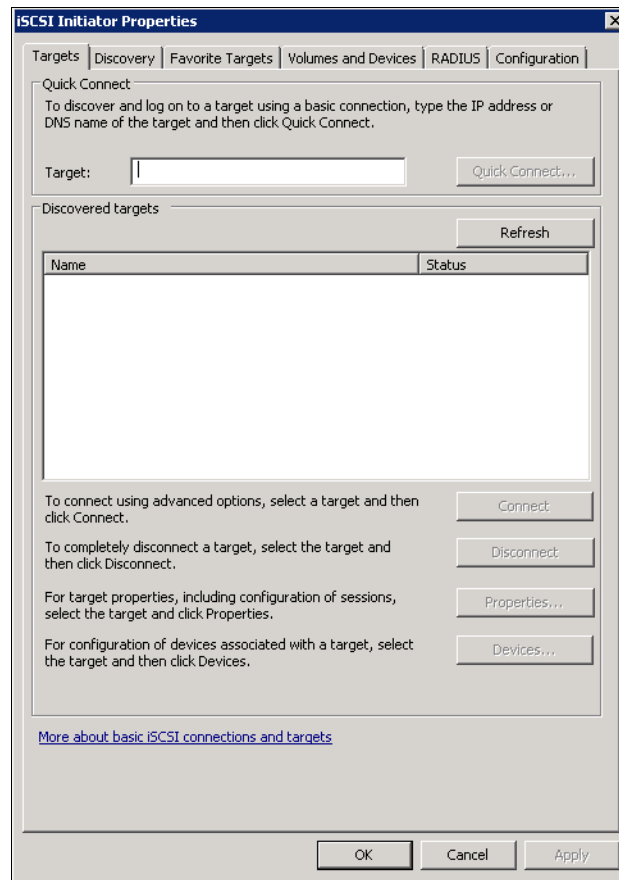

Figure 5-40 Windows iSCSI Configuration tab
2. Log on to your Windows 2008 host and click **Start** → **Administrative Tools** → **iSCSI Initiator** to open the iSCSI Configuration tab, as shown in Figure 5-40.